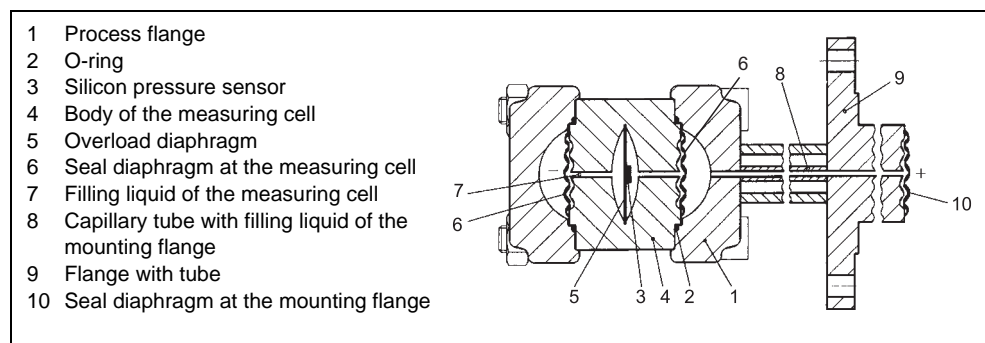

Figure 8 Measuring cell for level, functional diagram
The input pressure (hydrostatic pressure) acts through the seal diaphragm (see (10) Figure 8, page 19) at the mounting flange hydraulically on the measuring cell. The differential pressure applied at the measuring cell is transmitted via the seal diaphragms (6) and the filling liquid (7) to the silicon pressure sensor (3). On exceeding the measuring limits, the overload diaphragm (5) is deflected until one of the seal diaphragms (6) comes into contact with the body of the measuring cell (4) and protects the silicon pressure sensor (3) against overloading. The measuring diaphragm is flexed by the differential pressure. Four piezo-resistors in bridge circuit doped in the measuring diaphragm change their resistance as a result. The change in resistance causes a bridge output voltage proportional to the differential pressure.